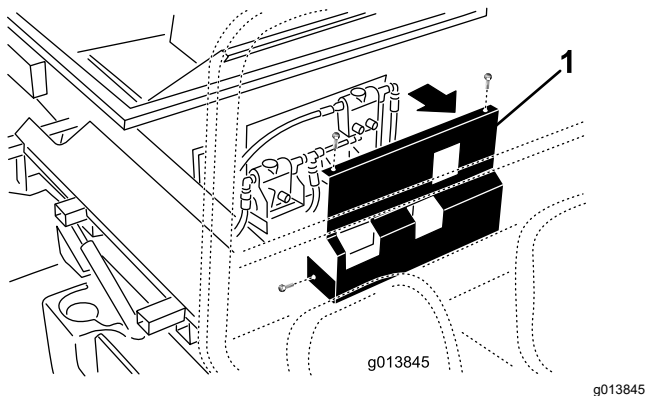

Figure 13
10. On the SH version (Model 44701), remove the fasteners securing the cover to the front of the machine and set the cover aside (Figure 13).